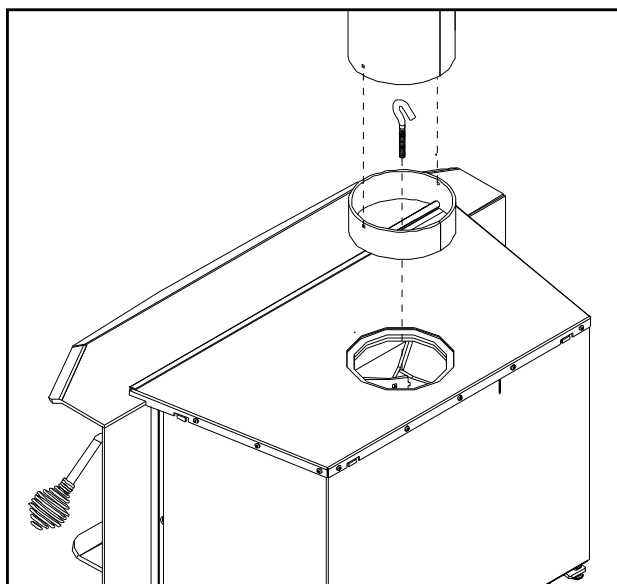
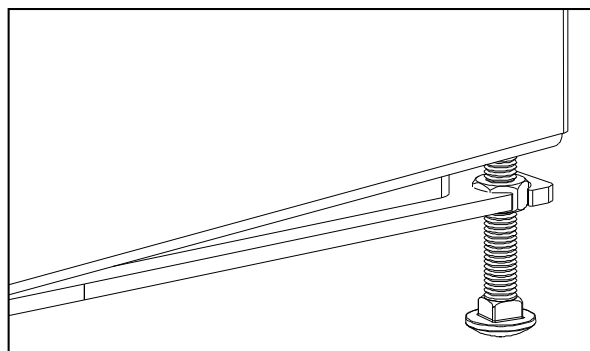

Figure 33: Attaching removable flue.
Figure 34: Leveling leg.
- f) Using the hook/bolt, grab the flue collar by the rod through the center and pull it into place (see Figure 33).
- h) Re-install ceramic baffles and the first two (2) front secondary air tube (see CERAMIC BAFFLE INSTALLATION).
3. There are two (2) leveling legs (shown in Figure 34), one on each side, at the back of the unit. Adjust the legs using a $\frac{9}{16}$ " wrench to ensure the unit is stable.